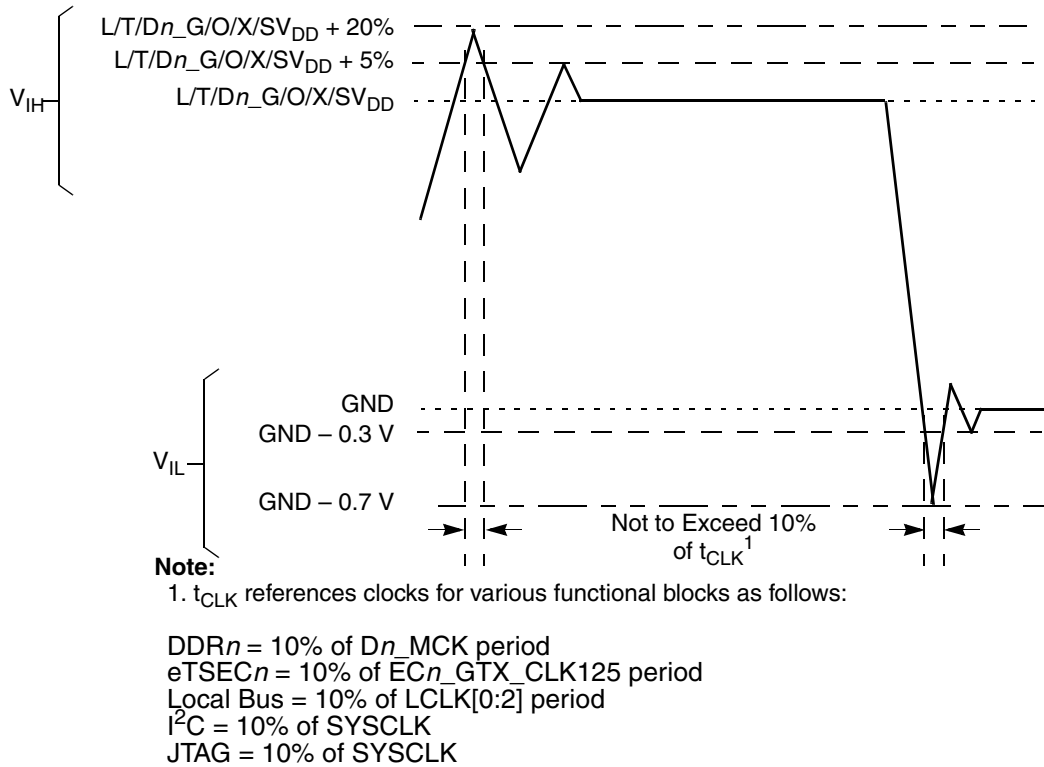

Figure 2. Overshoot/Undershoot Voltage for D n _M/O/L/TV $_{IN}$
5. During run time (M,L,T,O) V_{IN} and Dn_MV_{REF} may overshoot/undershoot to a voltage and for a maximum duration as shown in Figure 2.
- Caution:** Dn_MV_{IN} must meet the overshoot/undershoot requirements for Dn_GV_{DD} as shown in Figure 2.
- Caution:** L/TV_{IN} must meet the overshoot/undershoot requirements for L/TV_{DD} as shown in Figure 2 during regular run time.
- Caution:** OV_{IN} must meet the overshoot/undershoot requirements for OV_{DD} as shown in Figure 2 during regular run time.
- Timing limitations for $M,L,T,O)V_{IN}$ and Dn_MV_{REF} during regular run time is provided in Figure 2
Figure 2 shows the overshoot and undershoot voltages at the interfaces of the MPC8641.